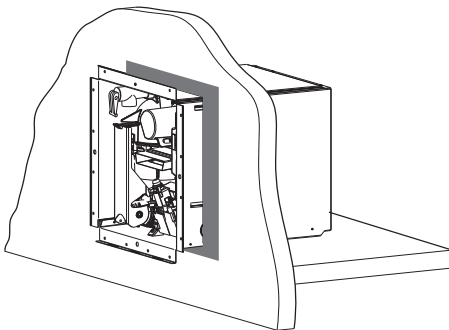

Fig. 21
- Apply an adequate amount of watertight sealing material to the entire flange area of the installation frame and at the corners, see gray marking in Fig. 21.